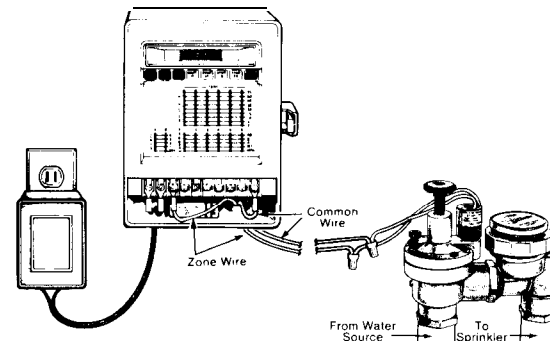

FIGURE 1
- C. Connect the common wire to the terminal marked "COMM". (Fig. 1)